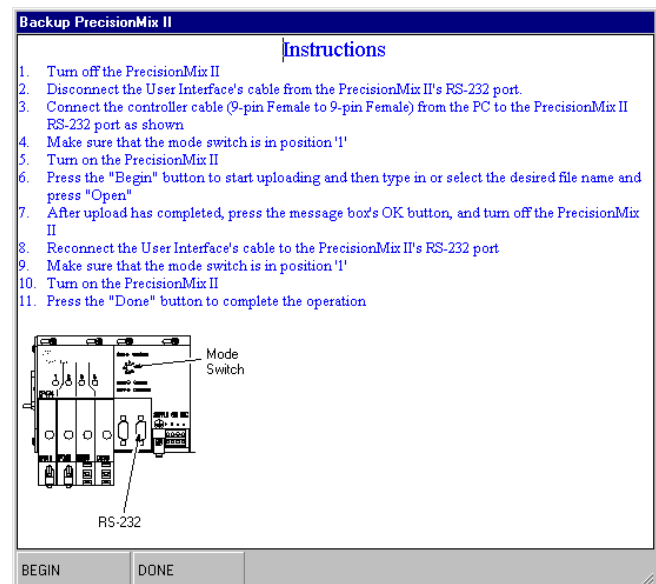

Fig. 13.4
2. An Instructions window to Backup PrecisionMix II will appear. See Fig. 13.4.